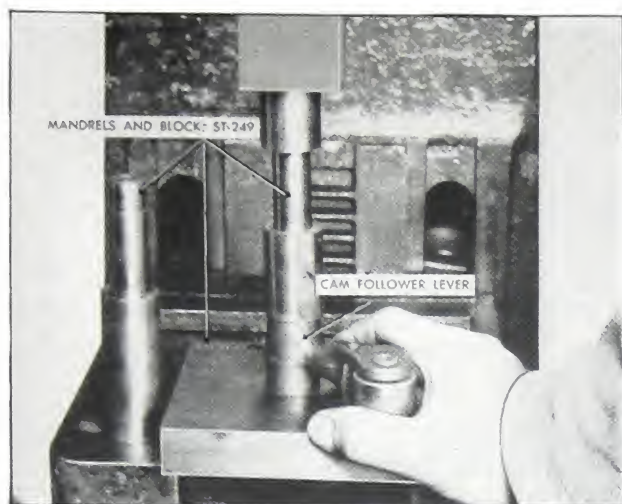

Fig. 4-9. Pressing bushing in cam follower lever
4. Press the bushing halves in the lever from either side, flush with the lever, with mandrel and block, ST-249, as shown in Fig. 4-9.